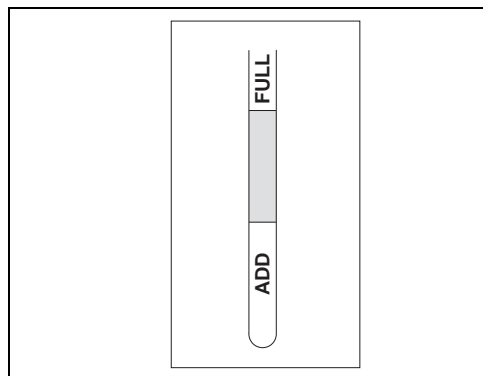

Figure 5.3 Engine oil dipstick
2. Check that the oil level of the engine is between the ADD and FULL marks on the dipstick (Figure 5.3). Add oil, if necessary.